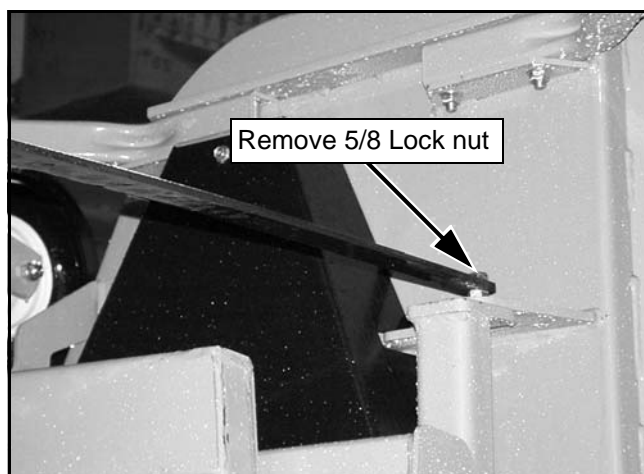

Figure 26. Remove Shipping Strap (Right Wing)
6. Remove 5/8 lock nuts and remove shipping strap from between right and left decks, Figure 26.